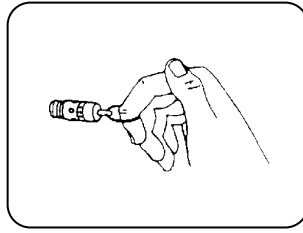

FIGURE 8.2
11. Check manual or automatic purger functioning (Figure 8.2) (time button setting at the purger or parameter P100 and P101, setting, according to product version).